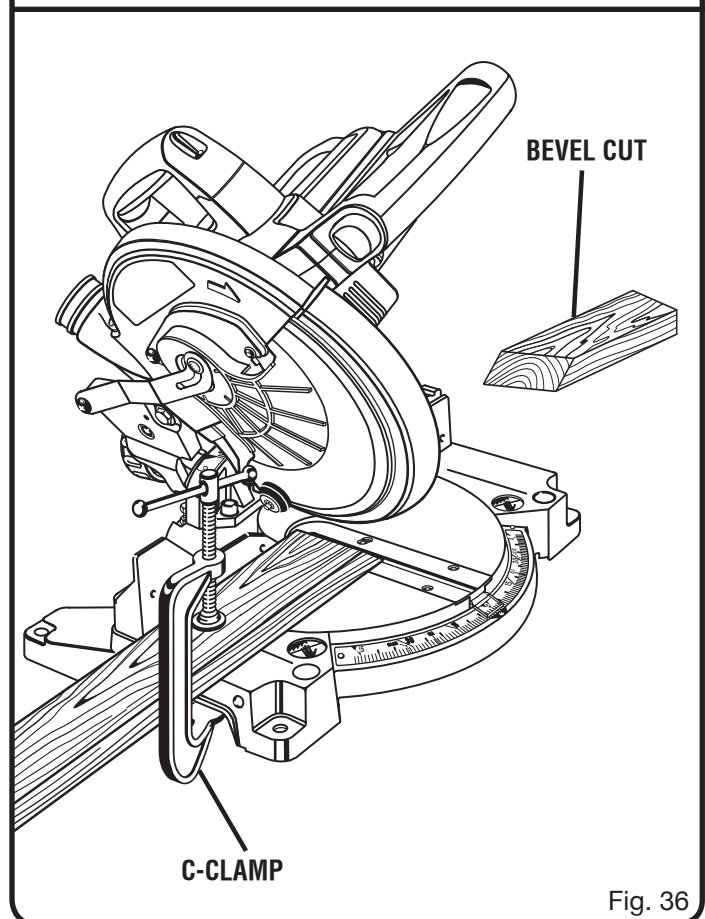

Fig. 36
- Grasp the stock firmly with one hand and secure it against the fence. Use the optional work clamp or a C-clamp to secure the workpiece when possible. *See Figure 36.*